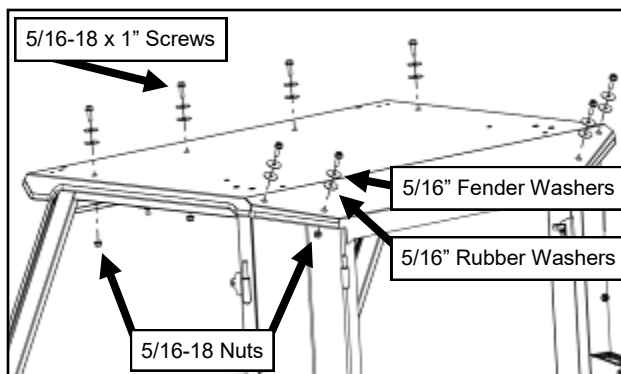

Fig. 15.3 (Roof Fasteners)
- 15.3** With assistance, set the roof on top of the cab. Loosely secure with fender washers and rubber washers on the (8) screws through the top of the roof into the windshield support and rear legs. See Figure 15.3.